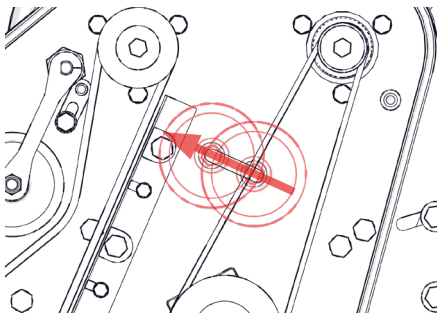

Fig.14G - Loosen the tensioner pulley.
- i. If re-tensioning only, skip to step iii. Loosen the tensioner pulley [9/16" spanner] (Fig.14G).